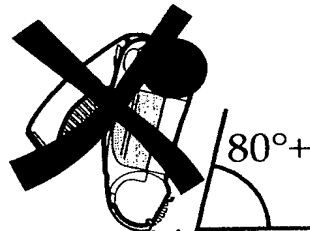

Figure 11
4. Do not use the product 'nose down' (fig.11).